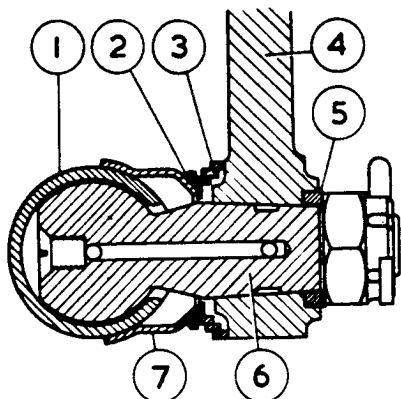

FIG.1. SECTION - BALL JOINT-SIDE STEERING TUBE REAR END.
a) Remove the castle nut and the locating washer, 5 Fig.1 from the ball end pin(6), then give the bottom of the pendulum lever (4) a sharp tap upwards, i.e. at right-angles to the axis of the ball pin. This should release the pin. A large steady block should be held against the upper end of the lever to absorb the shock, and a drift used on the lower end to prevent damage to adjacent parts.
c) Collect the pressure spring 3, Fig.1, the sealing disc, (2) and mud excluder (7).
**NOTE:** When re-connecting the side steering tube to the pendulum lever, it is important that the mud excluder (7 Fig.1) is placed the correct way round, i.e. with the longest plain portion pointing
towards the rear end of the tube. After placing the ball pin in the pendulum lever, make sure that the flats and lugs of the locating washer (5 Fig.1) correctly engage with the corresponding flats and slots on the ball pin and in the lever.